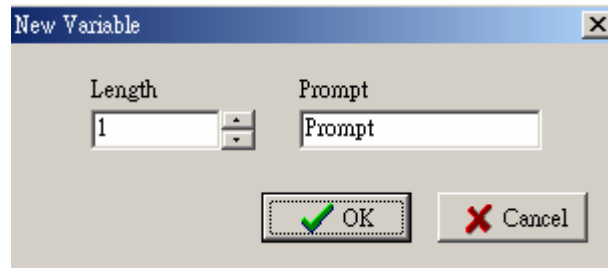

Fig.13.3
1. Insert a text or barcode. (refer to the Fig.13.3)